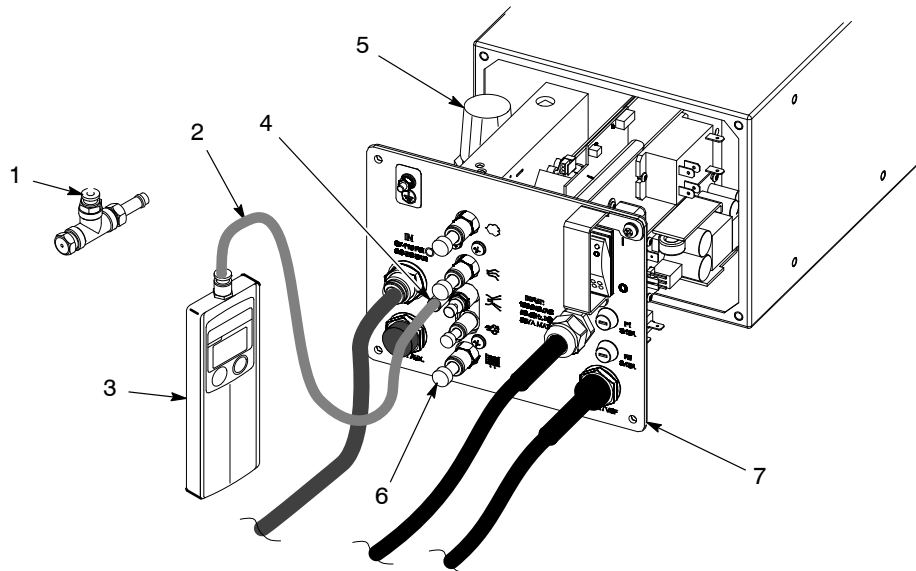

Figure 6-12 Regulator Adjustment
1. See Figure 6-12. Pull the sub-panel (7) far enough out of the power unit cabinet to access the regulator.
2. Disconnect the 4-mm electrode air wash tubing from the power unit. Disconnect the flow, atomizing, purge, and fluidizing air tubing and plug the fittings with 8-mm and 6-mm plugs (6).
3. Unplug the 4-mm manometer air tubing (2) from the orifice assembly (1) and plug the tubing to the electrode air wash fitting (4).
6. Pull out the regulator knob (5) and adjust it to slightly more than 85 psi (5.86 bar). The manometer reading should occasionally bounce higher, but never fall below 85.